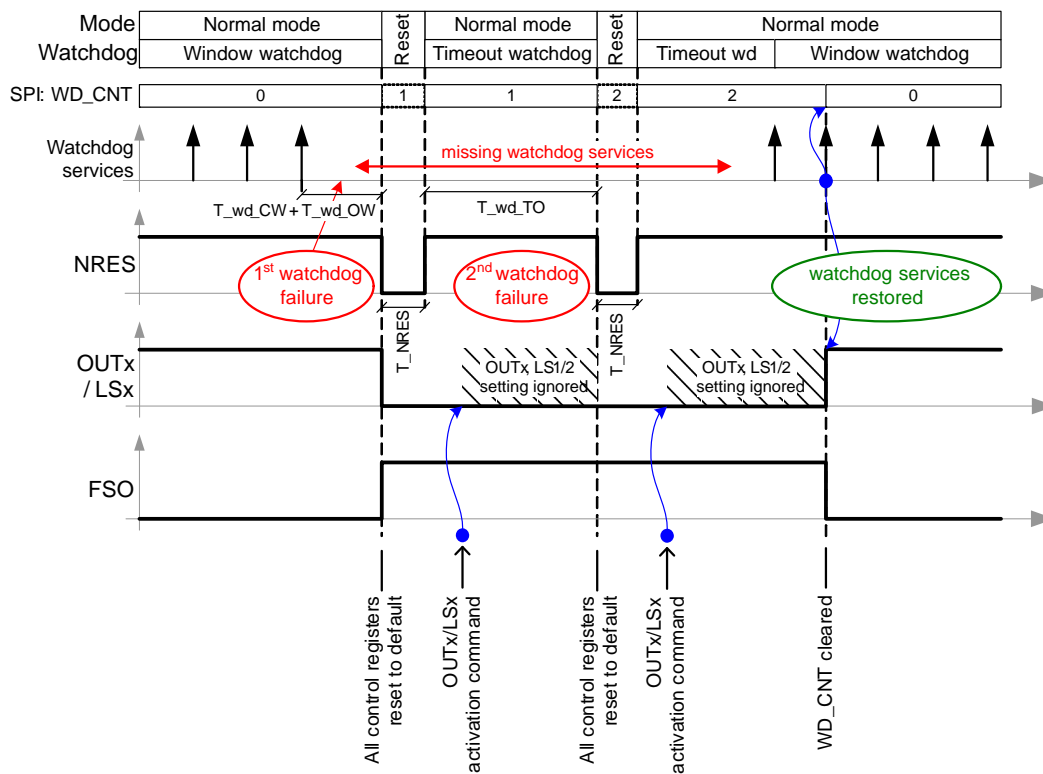
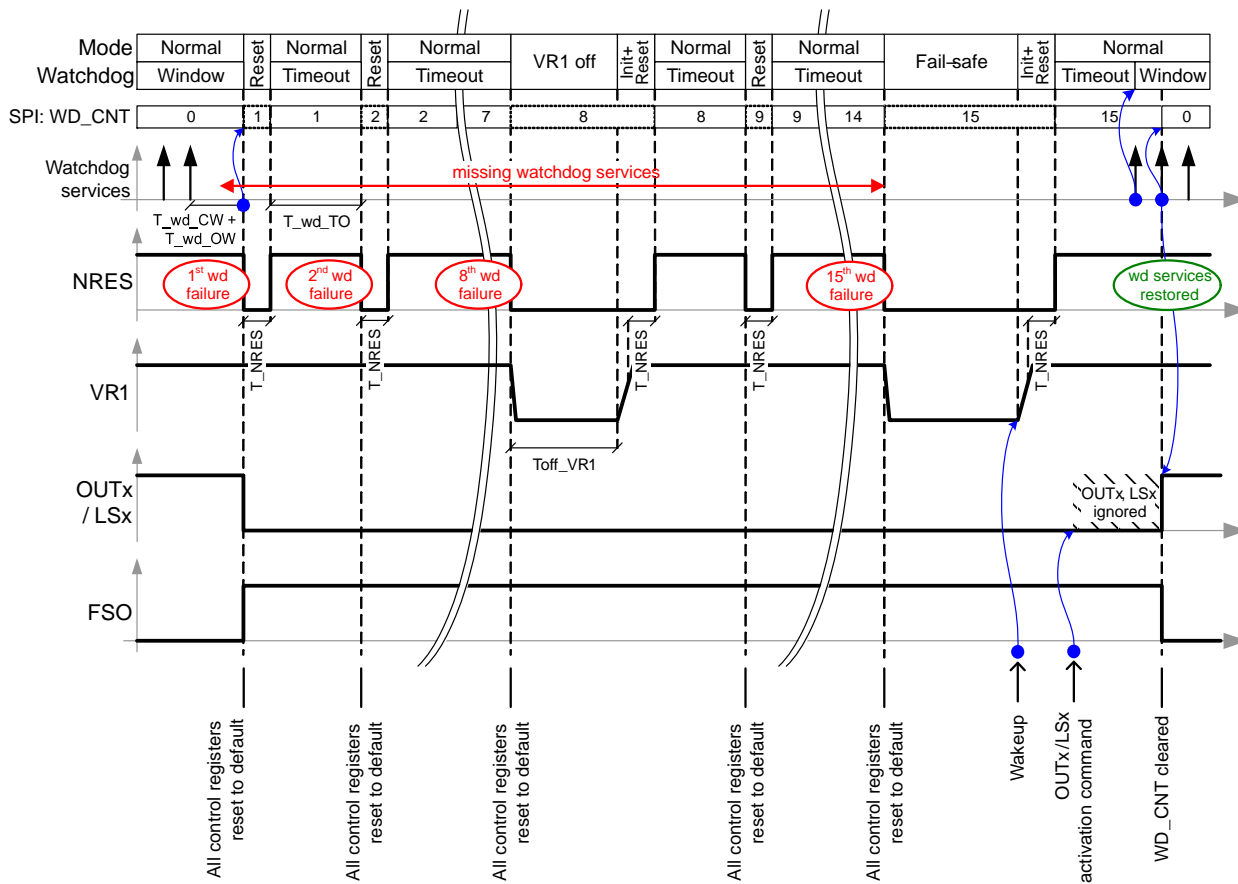

Figure 17. Watchdog Failure – Isolated Events
Figure 18. Watchdog Failure – Multiple Events
- **Failure**: If the watchdog is not triggered correctly (trigger not sent during timeout or open window; or sent during the closed window), reset is generated on pin NRES and the “WD_TRIG” bit is reset to “0”. After the NRES release, the watchdog always starts in the timeout mode. Watchdog failures are counted and their number can be read from the SPI status registers (bits “WD_CNT[3:0]”). After eight watchdog failures in sequence, the VR1 regulator is switched off for 200 ms. In case of seven more watchdog failures, VR1 is completely turned off and the device goes into Fail-safe mode until a wake-up occurs (e.g. via the LIN bus). Second successful watchdog trigger (first in window mode) resets the failure counter. Watchdog failure handling is shown in Figure 17 and Figure 18.